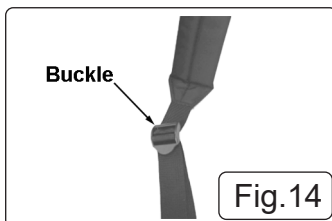

Fig.14
5.13.1. To lengthen the strap, lift up the buckle (fig 14), and pull the belt through from the side connected to the sprayer.
5.13.2. To shorten the strap, lift up the buckle (fig 14), and pull the belt through on the free side.